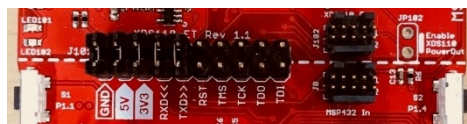

図 15. MSP432P410R LaunchPad™ Isolation Block
1. Remove jumpers on the JTAG signals on the J101 isolation block including RST, TMS, TCK, TDO, and TDI as seen in Figure 15.